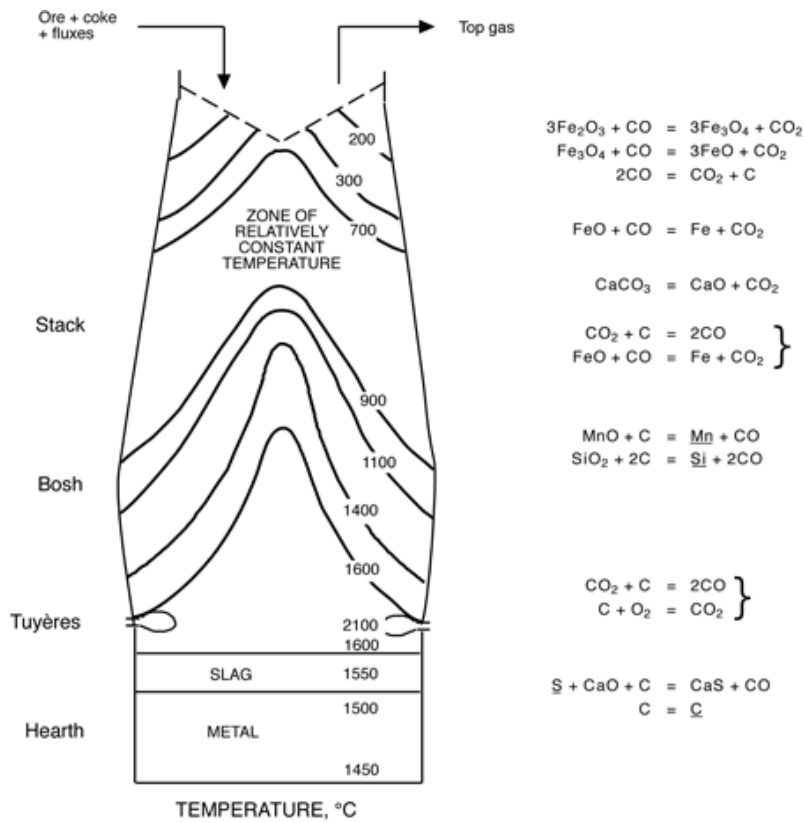

Figure 3: A sketch of blast furnace cross section
2. As shown in Figure 3, various refractory materials are used in construction of a blast furnace. Different parts of the furnace required different types of refractory material. Based on this figure:-